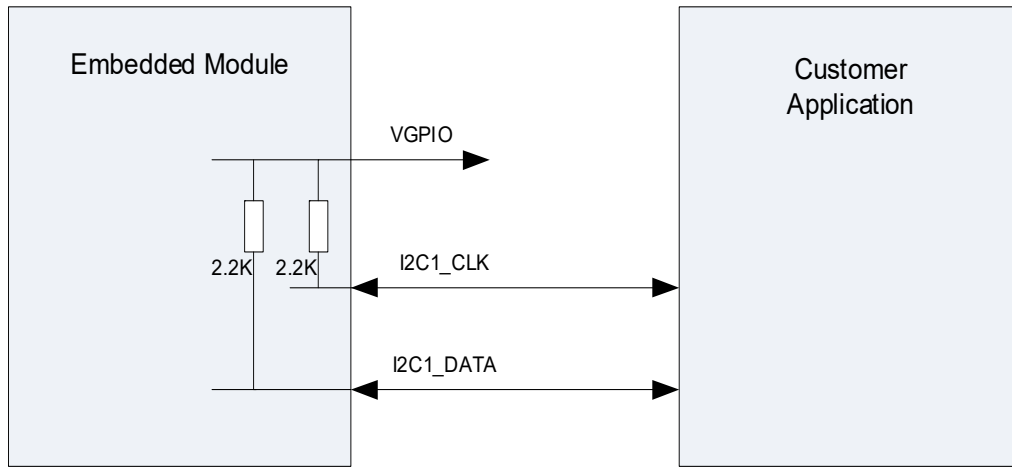

Figure 4-5: Example of I²C Bus Application
- I²C signals are implemented internally as open drain outputs (per the I²C specification) with 2.2 k Ω pull-up resistors to VGPI0 (see Figure 4-5).